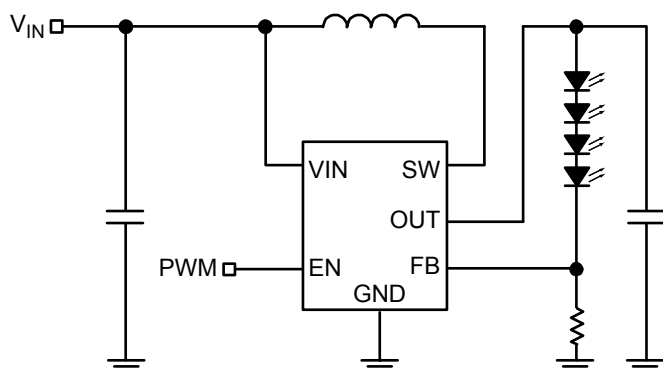

Figure 1. PWM Dimming Method
1. PWM dimming control is implemented by applying a PWM signal on EN pin as shown in Figure 1. The MIC2289C is turned on and off by the PWM signal. With this method, the LEDs operate with either zero or full current. The average LED current is increased proportionally to the duty-cycle of the PWM signal. This technique has high-efficiency because the IC and the LEDs consume no current during the off cycle of the PWM signal. Typical frequency should be between 100Hz and 10kHz.